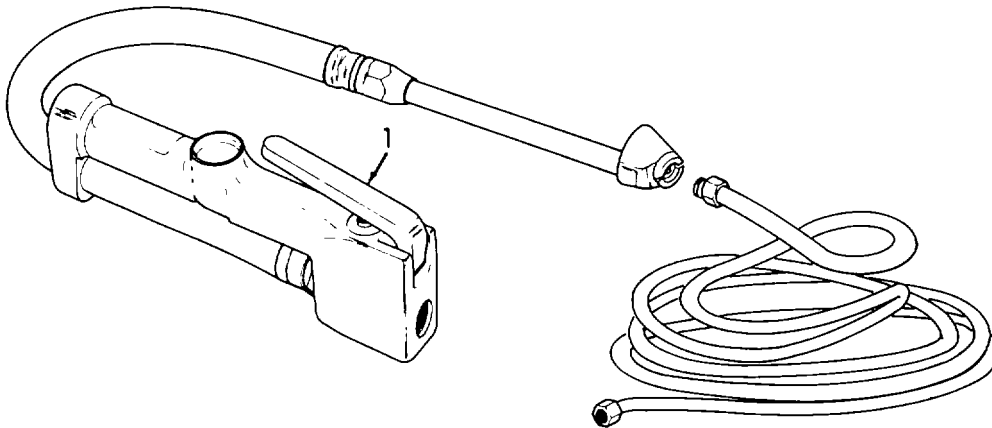

Figure 3-44. Inflator Gage, Installation.
- (1) Inspect fitting for damage.
- (2) Inspect inflator gage for damage.
e. Installation. Connect the inflator gage (1, Figure 3-44).